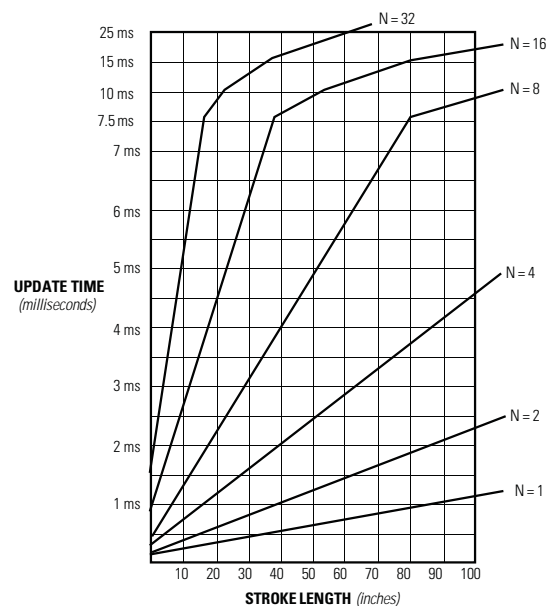

Figure A-1
3. Use the graph in Figure A-1 to determine the update time, based upon the stroke and circulations.
3. The graph (Figure A-1) indicates an update time of approximately 2.3 milliseconds (which is acceptable).
4. Taking the N value from Step 3 and the given stroke, use the graph in Figure A-1 to determine the update time.
6. The graph in Figure A-1 indicates an update time of less than 25 milliseconds (which is acceptable).
2. Using the N value selected, look up the update time in the graph, Figure A-1. If this update time is acceptable, record the values for N, R, D, and update time, and go on to Step 3. If this update time is not acceptable, try Step 1 again, using the values for D = 1. The divider D = 2 is preferred, to prevent instability of the least significant digit (LSD). If one or more digits are discarded, however, D = 2 offers only marginal improvement over D = 1.